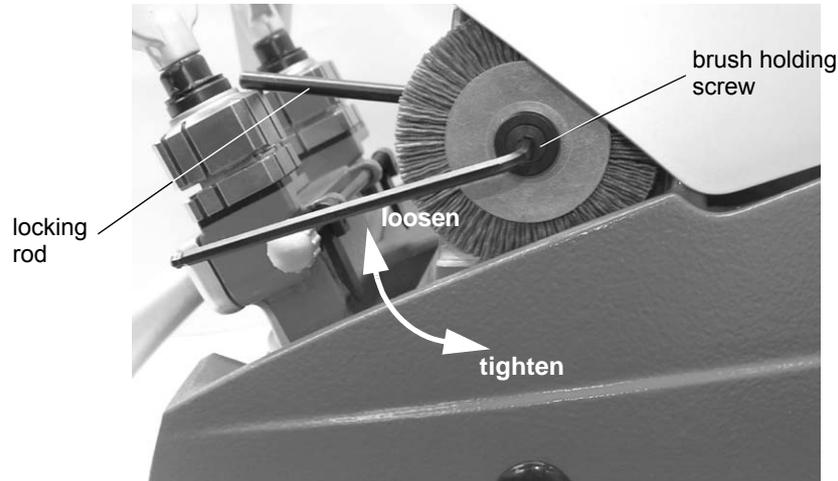
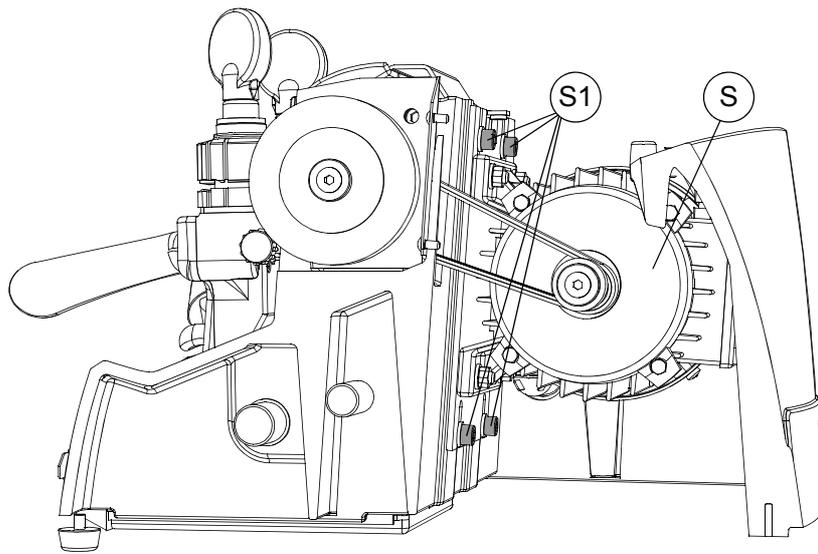

Fig. 18
Fig. 21
- 2) Use the Allen wrench (provided) to loosen the screw holding the brush in place (fig. 18).
- 2) Loosen the 3 screws (M1) and remove the top cover (M).
- 3) Loosen the 4 screws (S1) of the plate motor (fig. 21).
- 1) Remove the two protective pads (Q).
- 3) Remove the brush (fig. 18).
- 4) Remove the 3 screw (M2) (fig. 18) to remove the protective cover (fig. 21)
- 5) * Loosen the 4 screws (S1) of the plate motor (fig. 21)
- 4) Loosen the 4 screws (S1) (fig. 21) on the motor fixing plate and remove the belt.
- 7) Install the belt and tighten the 4 screws (S1) (fig. 21) of the plate motor.